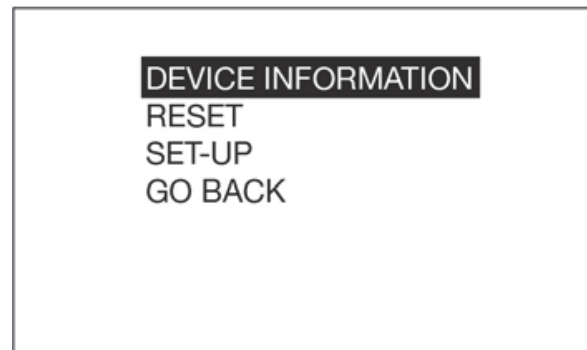

FIG. 36
2. When the screen is highlighted (FIG. 36), press the ENTER button on the key pad.